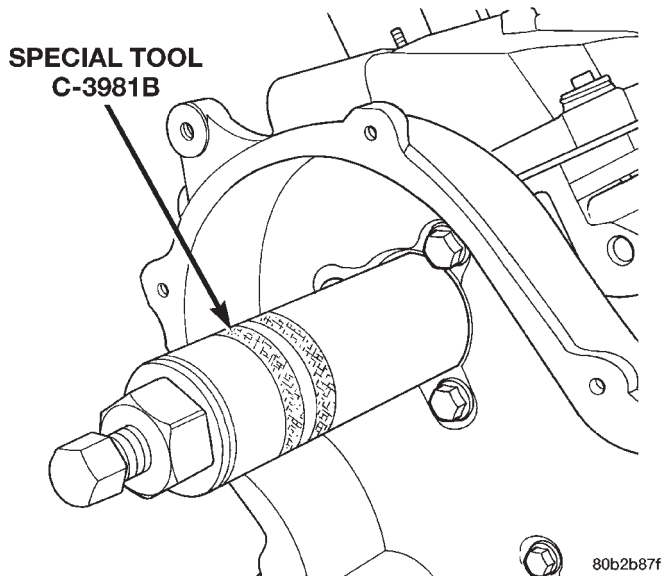

Fig. 75 Camshaft Oil Seal—Removal
(1) With camshaft sprockets removed. Refer to procedure outlined in this section.
(2) Use Special Tool C-3981B to remove camshaft oil seal (Fig. 75).